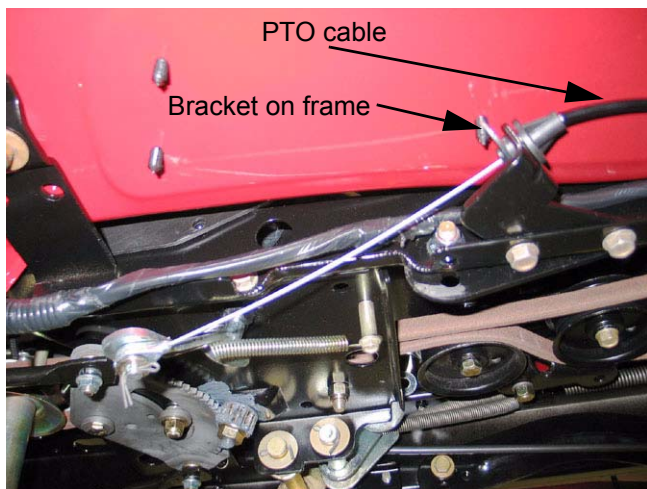

Figure 2.12
- 2.12. Remove the cable from the tractor by removing the cotter pin that holds the cable eyelet to the PTO arm, and pulling-out the hairpin clip that fastens the cable housing to the bracket on the tractor frame. See Figure 2.12.